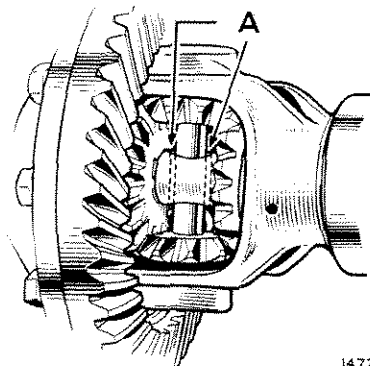

Fig. 12. Showing position of differential cross-pin in relation to the thrust block
**IMPORTANT:** To ensure centralisation of the thrust block with the cross pin (see Fig. 12) equalize the thickness of the shim packs behind both backing plates.